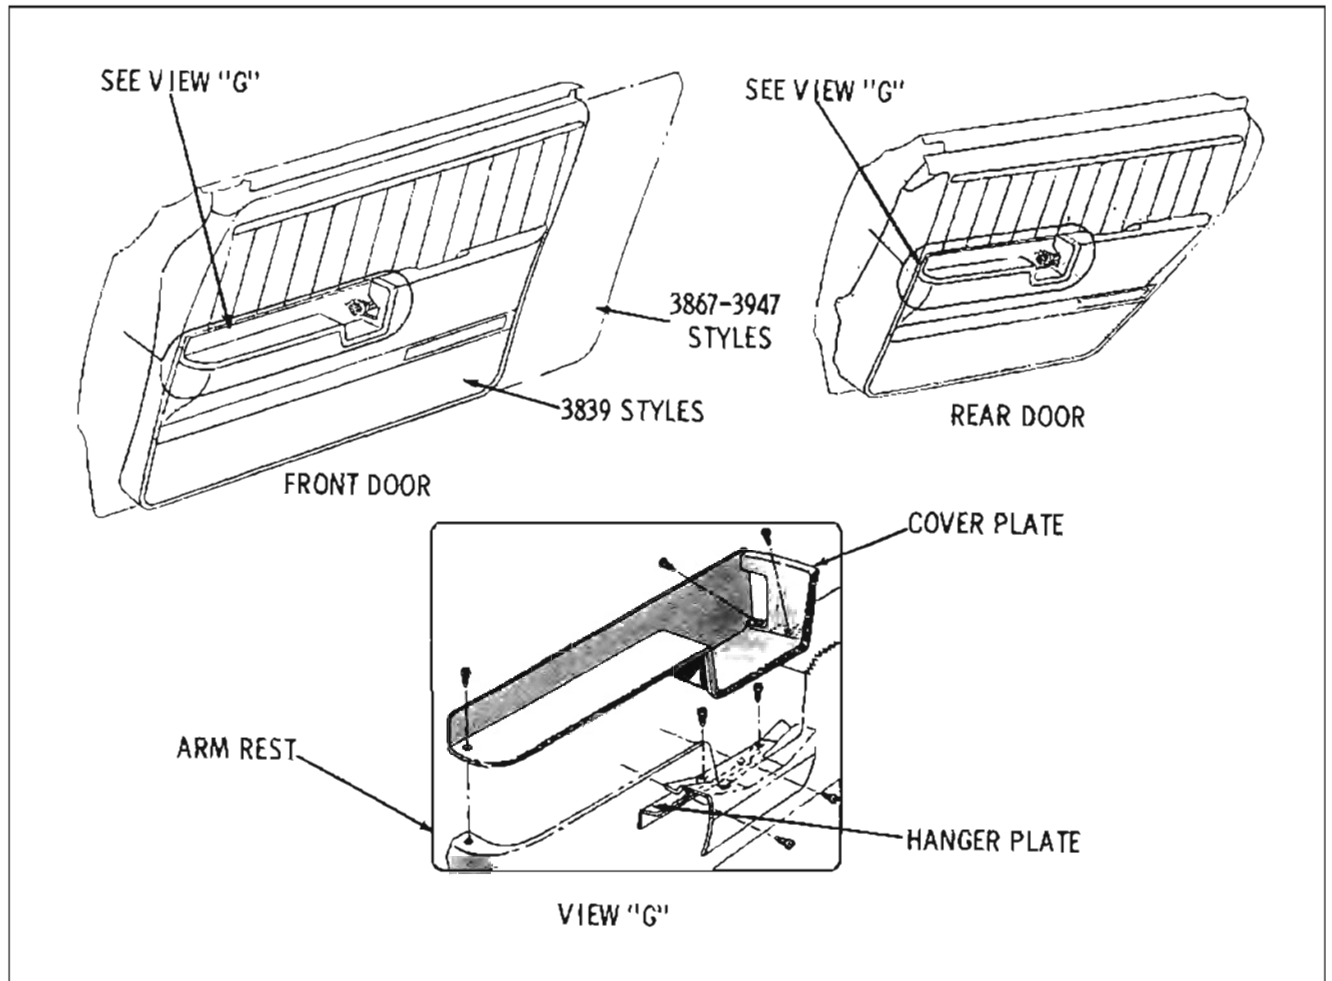

Fig. 16-26 Arm Rest Cover Plate
1. Remove screws securing cover plate to arm rest and remove assembly from door. (View "G" in Fig. 16-26)